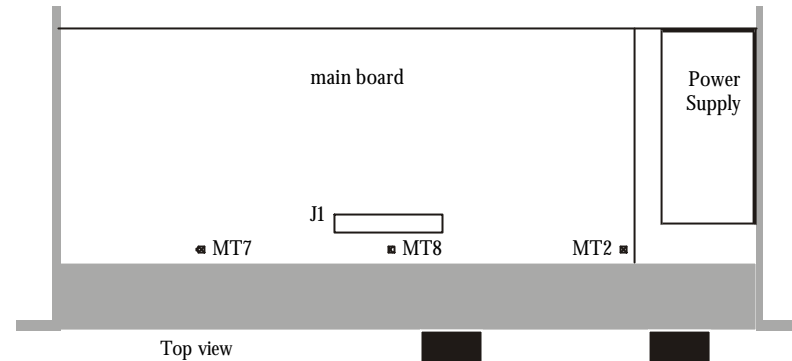

Fig. 3: Location of J1, MT7, MT8 and MT2
4. Disconnect front connector, J1, see fig. 3.